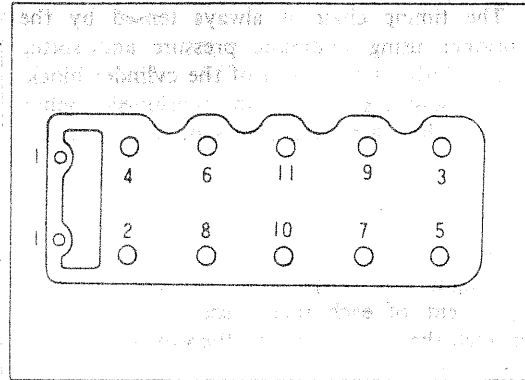

Figure 1.2-E. Loosening Sequence of Cylinder Head Bolts
1.2.5- CYLINDER HEAD DISASSEMBLY (Figures 1.2-F, 1.2-G)